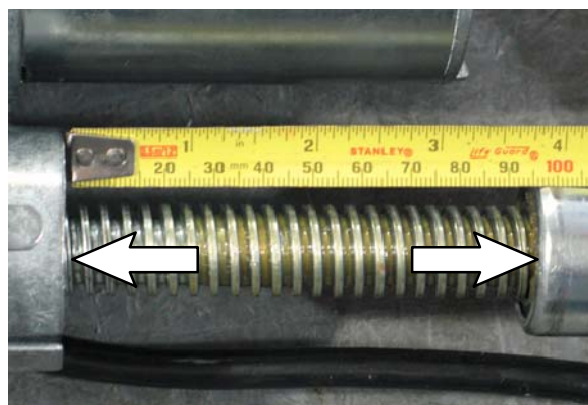

FIG. 1
2. Turn the actuator (1) barrel away from the actuator until the edge of the barrel is 3.75" away from the body of the actuator. Refer to Fig. 1.